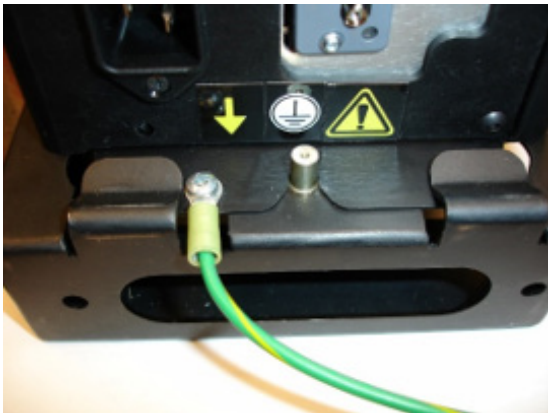

Figure 1 — Secondary Protective Earth Attachment
Plug female end of power cable into Power Cable Connector (Figure 1, pg. 11).
**Step 3:** The Secondary Protective Earth Attachment (it is required) must be connected to ground using the #14 AWG conductor, a green wire with a yellow stripe. Attach using a #10-14AWG ring terminal and #10 star washer (Figure 1).